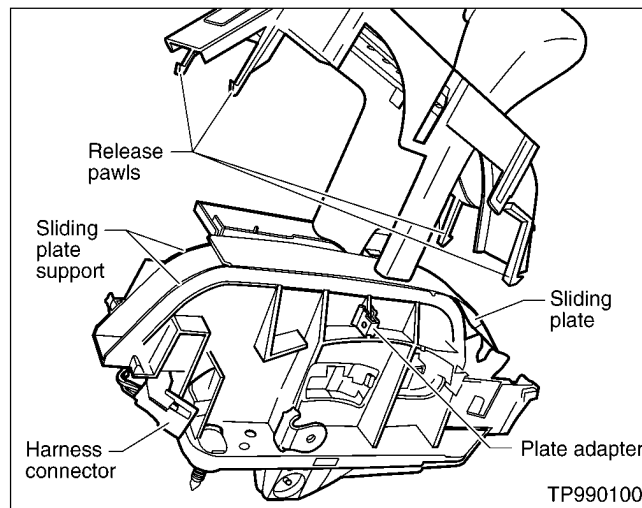
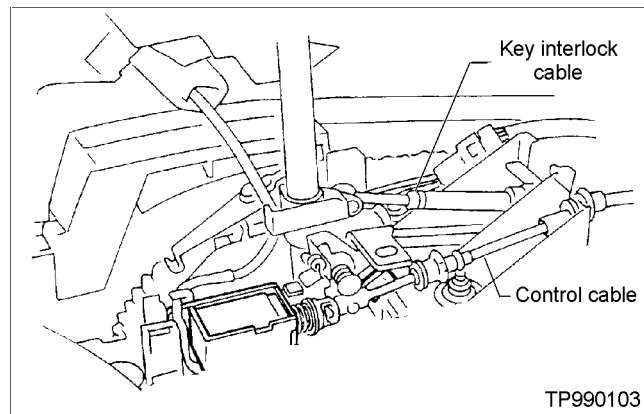

Figure 3.
Figure 4.
3. Release pawls of the A/T shift indicator and lift to expose sliding plate base support (see Figure 3).
5. Attach the plate adapter, P/N 34981-79900 to the A/T device as shown in Figure 3.
4. Remove key interlock lock cable, A/T control cable (see Figure 4) and electrical harness connector from the A/T shift control device (see Figure 3).
10. Remove the harness connector from mounting bracket (See Figure 3).
17. Clean the surface of sliding plate and lightly grease the sliding plate supports (see Figure 3).
18. Attach the plate adapter, P/N 34981-79900 to the A/T shift control device base bracket (see Figure 3).